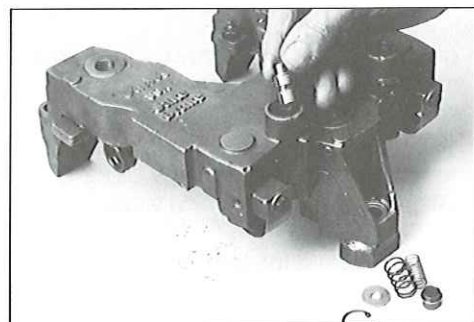

FIG. 38
3. Slowly remove cover until spring pressure ceases, then remove the two control valve springs and collar (see Fig. 38).